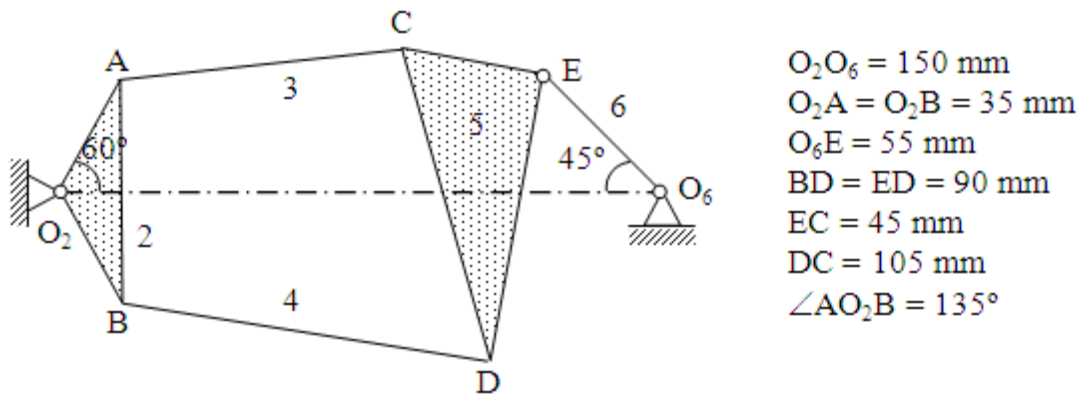

Fig. 1
7. The mechanism shown in Fig.1 is driven by link 6 with angular velocity of  $0.5 \text{ rad/sec}$  and angular acceleration of  $2 \text{ rad/sec}^2$  both counterclockwise. Determine angular velocity and angular acceleration of link 2. 15 M